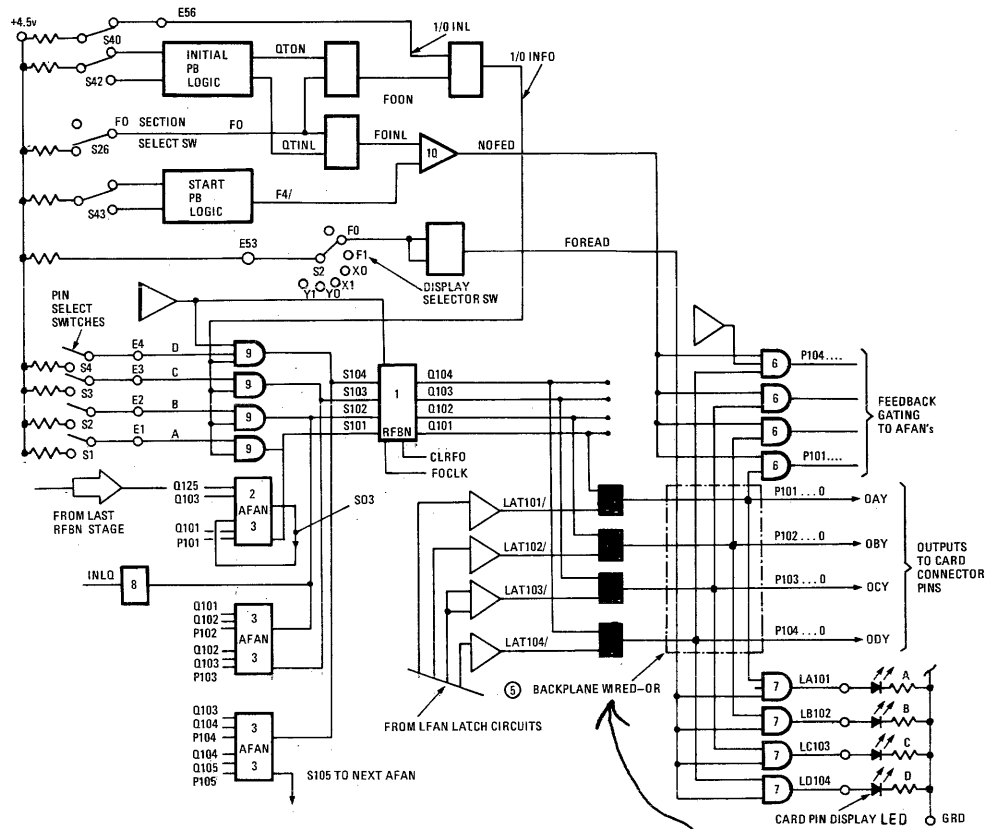

Figure 2-8. Sum/Shift/Display Logic
Five 3 input AFAN's (3) are also shown in Figure 2-8.
An example of a 2 input AFAN (2) is shown in Figure 2-8.
The four bit storage RFBN (1) as shown in Figure 2-8, stores the following logical input conditions:
The four output buffers (4) as shown in Figure 2-8, activate the card logic by the terms P101 thru' P104. The P terms are true when Q and LAT/input conditions are both true.
The feedback principle depends on the backplane connection (5) as shown in Figure 2-8, by distributing card pin logic levels to the following elements:
1. Feedback And-gates (6).
2. Card Pin Section Display And-gates (7).
The And-gates (6) as shown in Figure 2-8, when enabled will distribute the feedback logic levels back to the AFAN sum logic (3).
The output terms LA (xxx) thru' LZ (xxx) from the And-gates (7) as shown in Figure 2-8, are connected to the Card Pin Section Display LED's. These gates are enabled by the following logic conditions:
1. Card connector pin terms P (yyy) ... 0, where (yyy) represents and buffer output (8) term.
The start bit term INLQ from buffer (8) as shown in Figure 2-8, directly sets the RFBN stage during the Test phase for two clock pulses. The RFBN input terms are preset to a fixed bit pattern for the first word of the Test phase. This allows the self generate and feedback circuits of